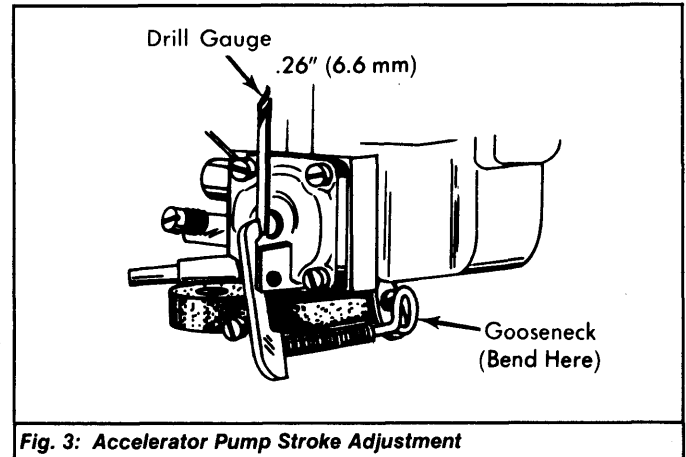

Fig. 3: Accelerator Pump Stroke Adjustment
2) If necessary, adjust gooseneck of pump push rod to obtain specified clearance. Close gooseneck to lengthen stroke or expand it to shorten stroke. See Fig. 3.